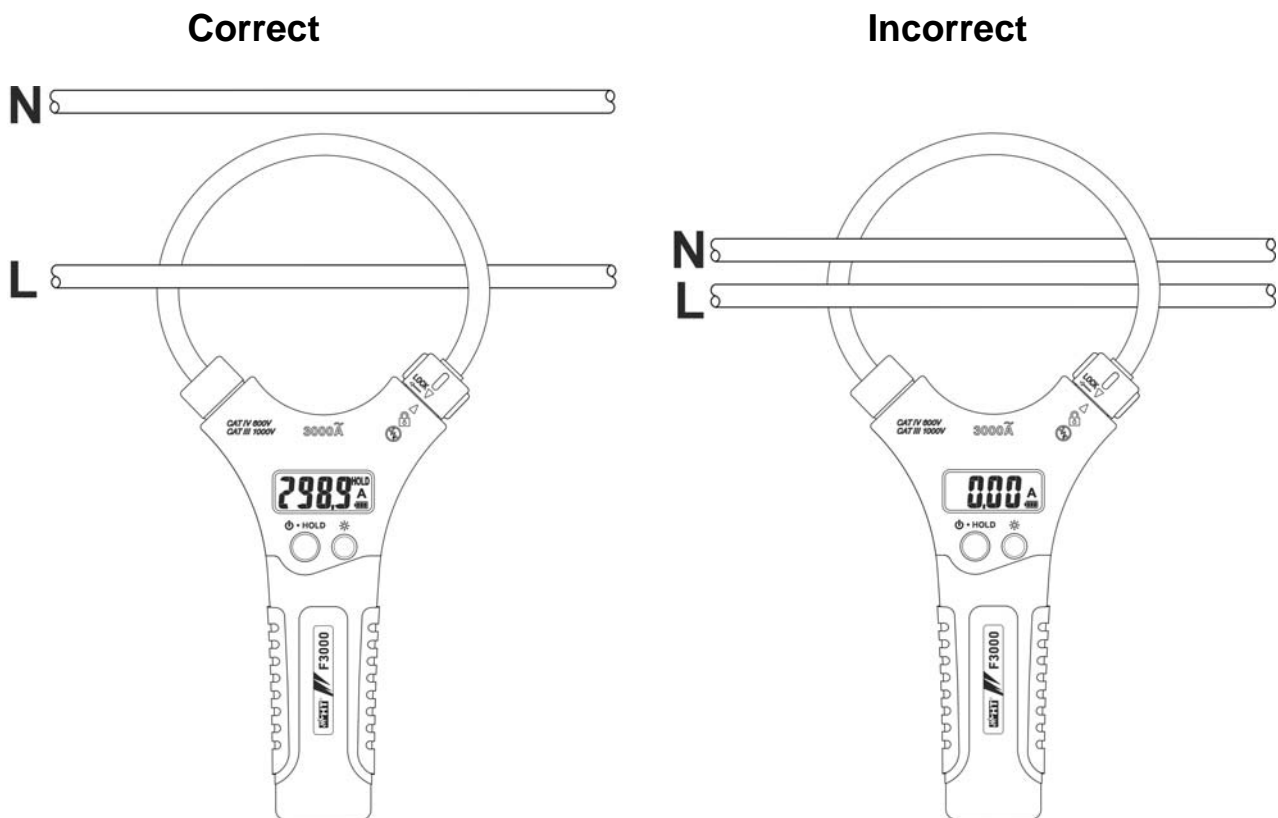

Fig. 3: Use of the clamp for AC current measurement
2. Open the flexible clamp jaw and insert the cable in the middle of it (see Fig. 3). The current value will be shown on the display